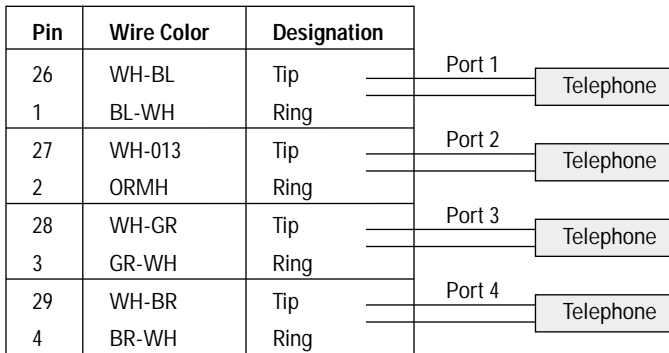

Fig. 13 – Typical telephone connections
4. Cross connect from Tip and Ring of stations to be recorded to Tip and Ring of MRI-320. See Fig. 13.